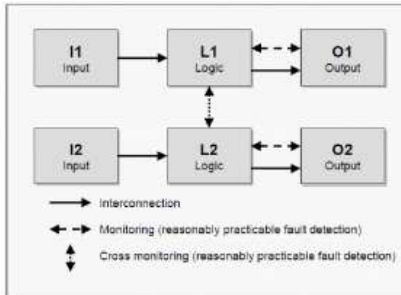

Figure 1
- The circuit arrangement can be divided into three function blocks per channel with the input (I), logic (L) and output (O) blocks on each channel.
- The possibility of fault detection by monitoring the outputs is indicated by the broken lines (see figure 1).